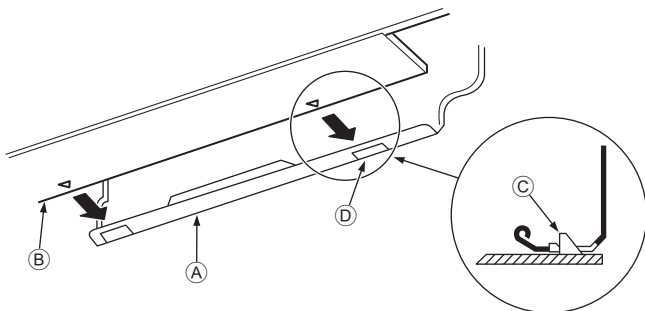

Fig. 3-10
3. While inserting the refrigerant piping and drain hose into the wall penetration hole (penetration sleeve), hang the top of the indoor unit to the mount board ①.
5. Fasten by pushing the bottom part of the indoor unit onto the mount board ①. (Fig. 3-10)
- * Check that the knobs on the bottom of the indoor unit are securely hooked into the mount board ①.